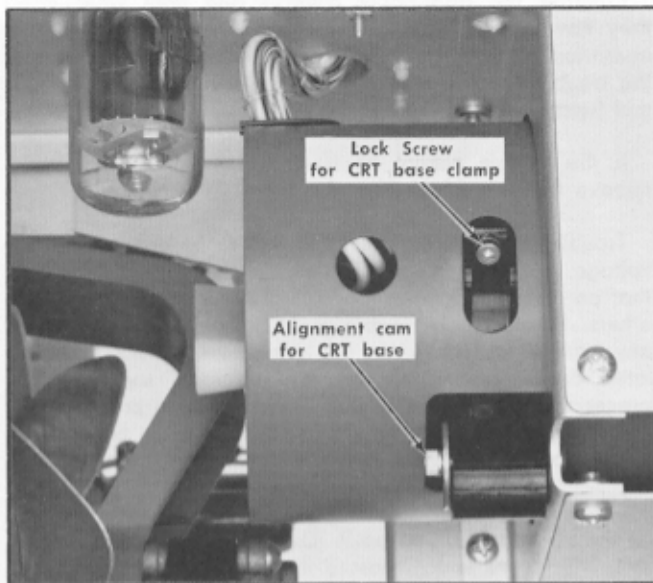

Fig. 4-6. Location of CRT base clamp and positioning cams.
4. Loosen the CRT base clamp with a 7/64 allen wrench. See Fig. 4-6.
If the CRT face is not aligned with the front of the instrument, use an allen wrench to loosen the two mounting screws that fasten the base clamp to the mounting bracket (see Fig. 4-6). Move the base clamp and CRT radially to align the face of the CRT with the front panel of the instrument. (A straight edge across the front of the face plate will provide an alignment reference.)